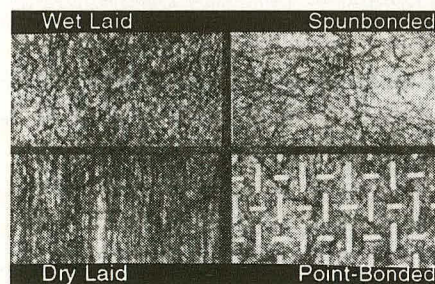

Figure 2
(4) **Media Composition and Manufacturing Process:** The physical properties of the filter media and its ability to meet the application requirements are determined by the media composition and manufacturing process. Figure 2 shows the visual differences, at the same magnification, among similar basis weight filter media produced by the four predominant nonwoven processes used to manufacture roll media for coolant filtration: wet laid, dry laid, and point-bonded. It is evident from visual examination that the wet laid process creates a more uniform web. This translates into a more consistent pore size distribution which is a major determining factor for dependable filtration efficiency. By comparison, spunbonded and dry laid filter media are typically less uniform due to the inherent nature of these manufacturing processes. The uniformity of wet laid media also lends itself to multidirectional strength which is especially desirable in vacuum and pressure filters, as compared to the unidirectional formation / strength created by the dry laid process. Filter media manufactured by the point-bonded process exhibits exceptional physical strength characteristics, however as much as 25%-30% of the surface area may be impermeable due to thermal sealing, which can result in increased media usage and associated purchase and disposal costs.